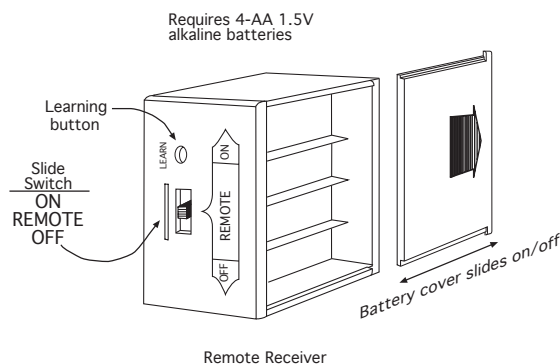

Fig. 11 Remote Receiver
First, install (4) AA-size 1.5 **ALKALINE** batteries in the remote receiver (Fig 11). For best performance, remote receiver batteries should be factory fresh when installed. The system operates best when battery output is greater than 5.3 volts. Four (4) new AA batteries should provide an output voltage of 6.0 to 6.2 volts. **Be sure batteries are installed with the (+) and (-) ends facing the correct direction.**